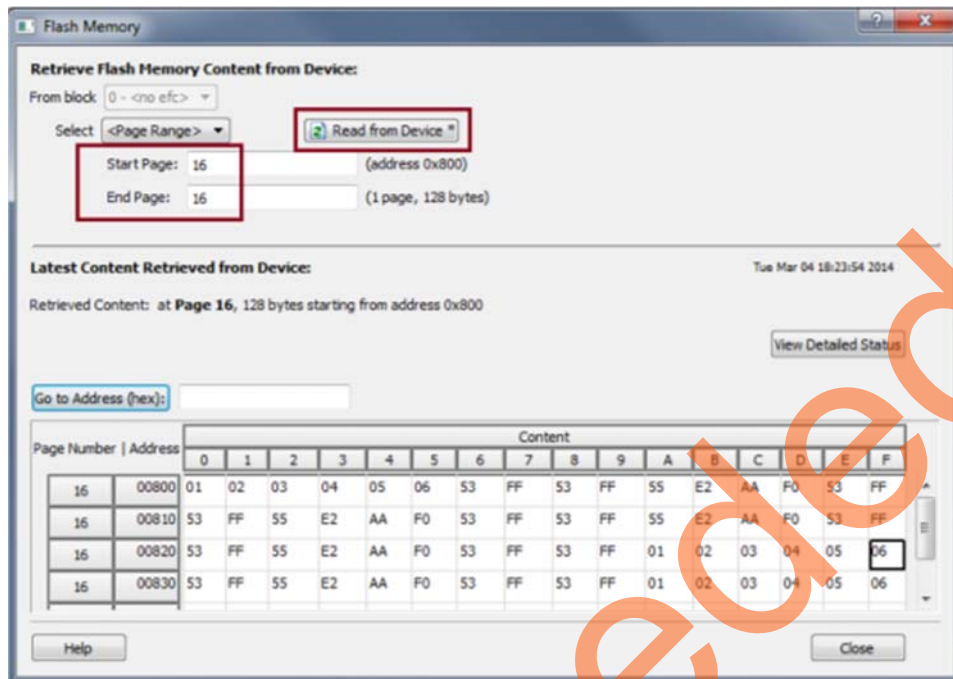

Figure 21 • Flash Memory (eNVM) Content Read from the Device
5. From the SmartDebug window, click **View Flash Memory Content** to retrieve the eNVM content from the device. The **Flash Memory** window is displayed as shown in Figure 21 on page 22.
7. Click **Read from Device** as shown in Figure 21.